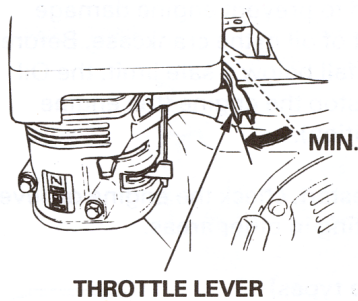

Fig. 12: Throttle Lever
- d. Turn the engine switch to the ON position (Fig. 12).
- d. Turn the engine switch (Fig. 12) to the OFF position.